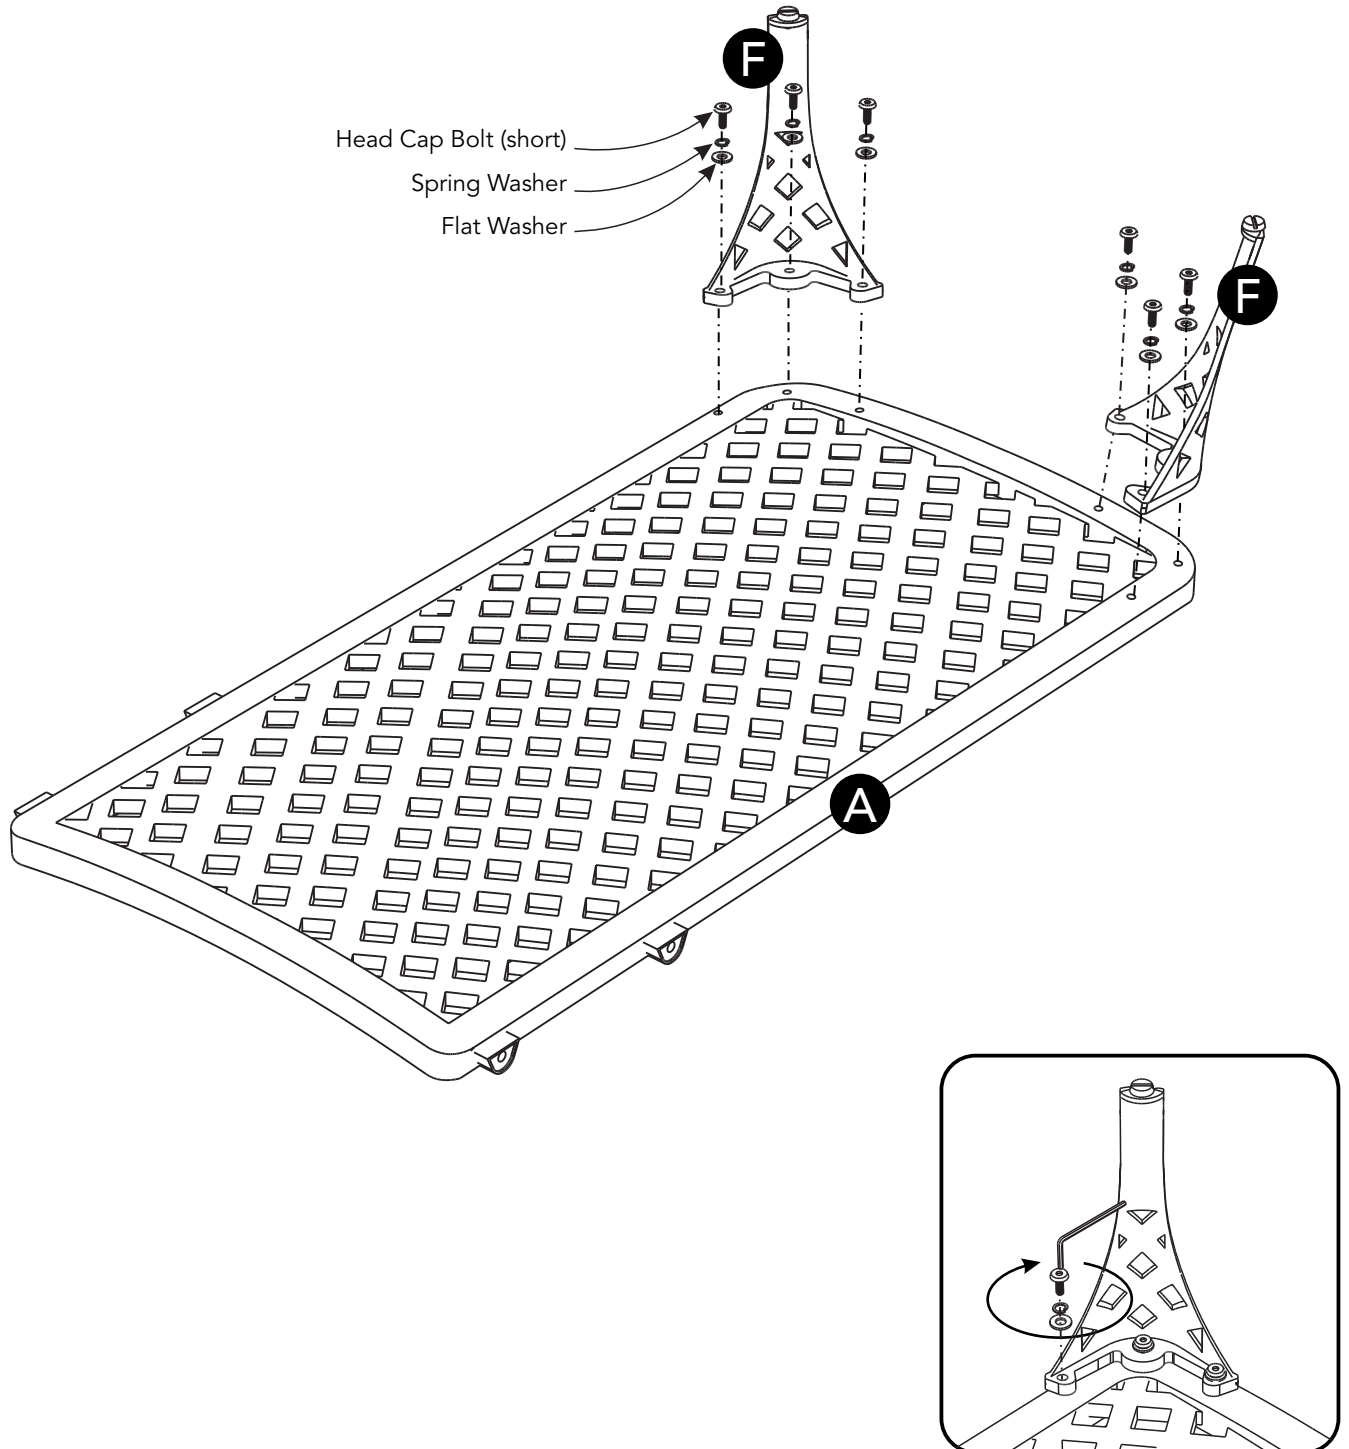

Figure 1
Attach Legs (F) to Seat (A) with Head Cap Bolts (short), Spring Washers and Flat Washers. (See Figure 1)